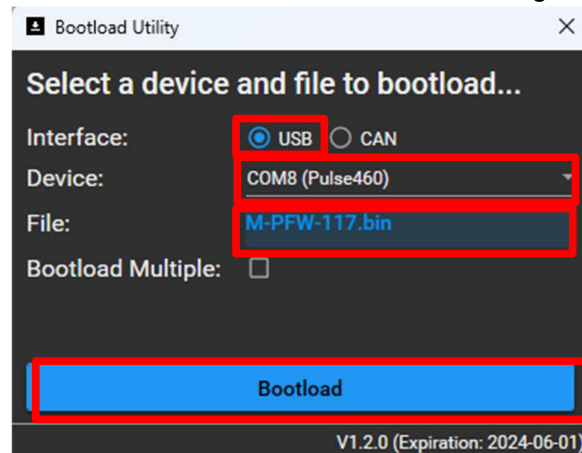

Figure 7: Load application firmware
- Select the correct COM Port and file for the device as shown in Figure 7.